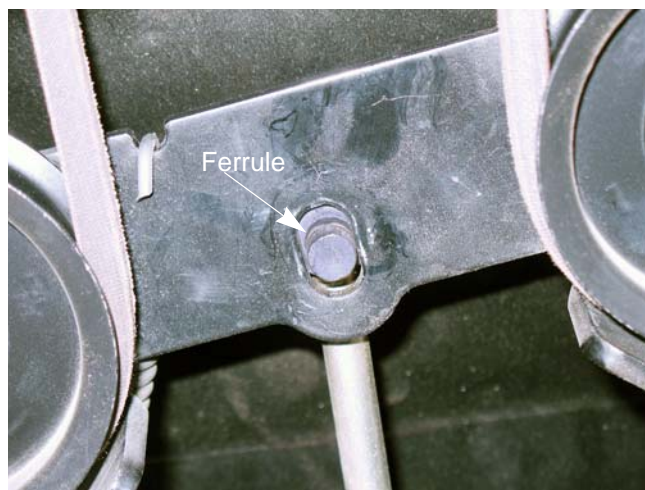

Figure 5.8
5. Adjust the ferrule so that it lines up with the middle of the slot and slides in without pulling on the spring. See Figure 5.8.